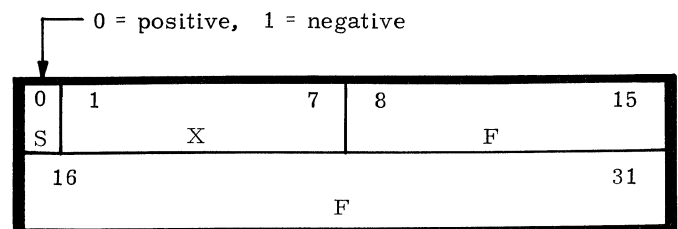

Fig. 4.1-2 Floating Point Data
Floating point data are represented in fullword form, with bit 0 serving as the sign bit. The number consists of a signed exponent (X) and fraction (F), as on Fig. 4.1-2.